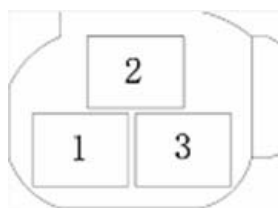

Fig. 4-36
4. Switch of left front glass frame riser (Fig. 4-36 and Table 4-6)